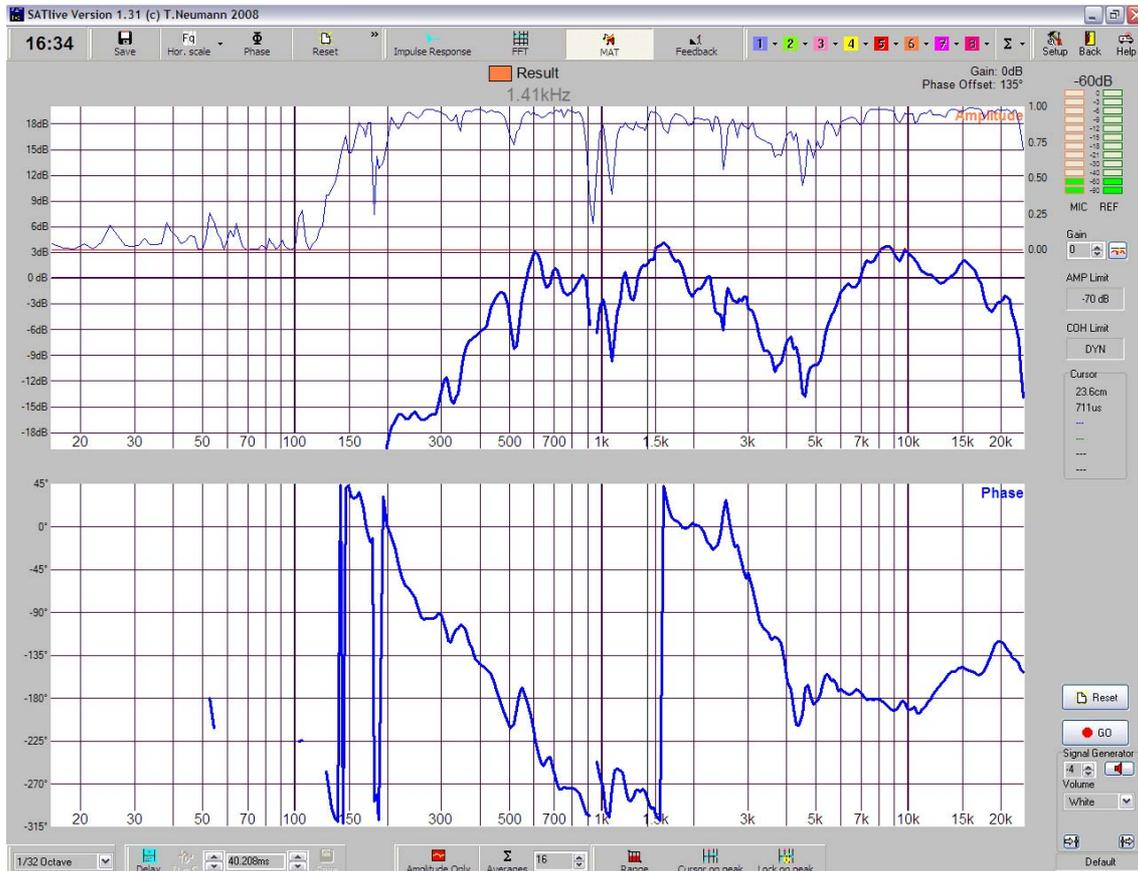

Fig. 15. Magnitude and phase response for the mid-high box.
- 5) Measure the mid-highs and save the curve. In our example, the curve in Figure 15 is obtained.